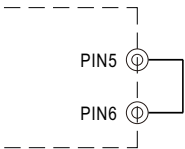

Fig. 4.1 Insert the CN1
- (1)Insert the shorting connector on CN1 that is shown in Fig 4.1, the Overload Protection Type will be "constant current limiting with delay shutdown after 3 seconds, re-power on to recover". This is the factory default.